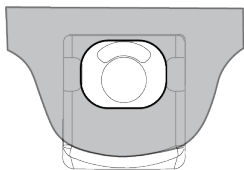

Fig. 2
1. Align the pulley fixture (PF101) under hoop ear using the ridge to align the pulley fixture (PF101) with the inside-back of the hoop hole (Fig. 2);
**NOTE:** The pulley fixture ridge must stay inside the hoop hole for proper alignment (Fig. 2).